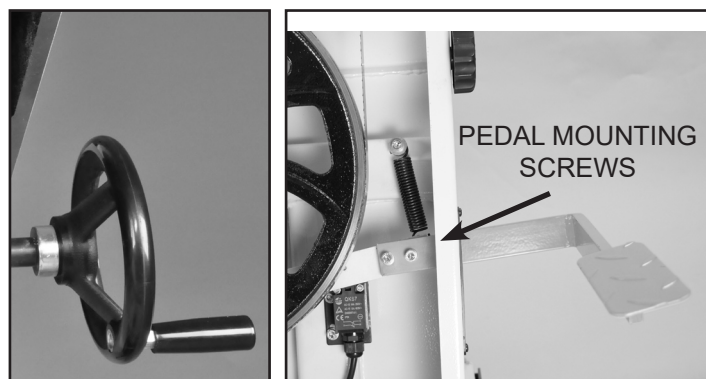

FIGURE 7
1. Attach the small Handle (#24B) to the large Handwheel (#23B) that tilts the table. Then install this handwheel onto the Gear Shaft (#22B) extending out from the trunnion at the back of the machine. Fig. 7, A.
Open the bottom door and attach the Foot Brake Pedal (#69A) to the Connecting Rod (#117A) with the two Screws and Washers (#67A, 68A) that are pre-assembled on the rod. Fig. 7, B.